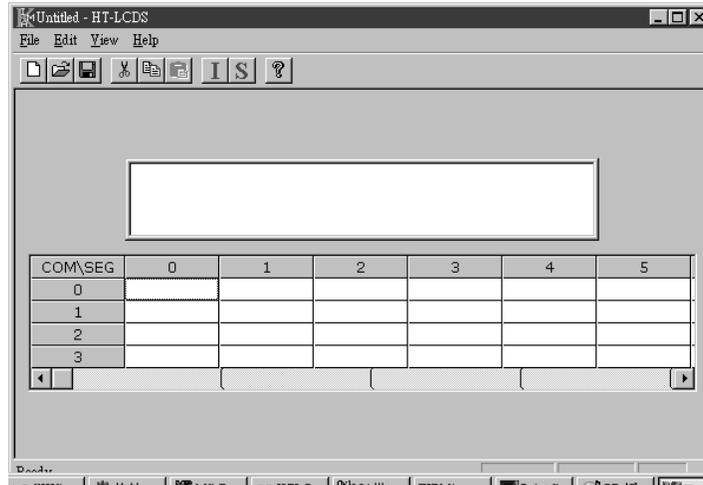
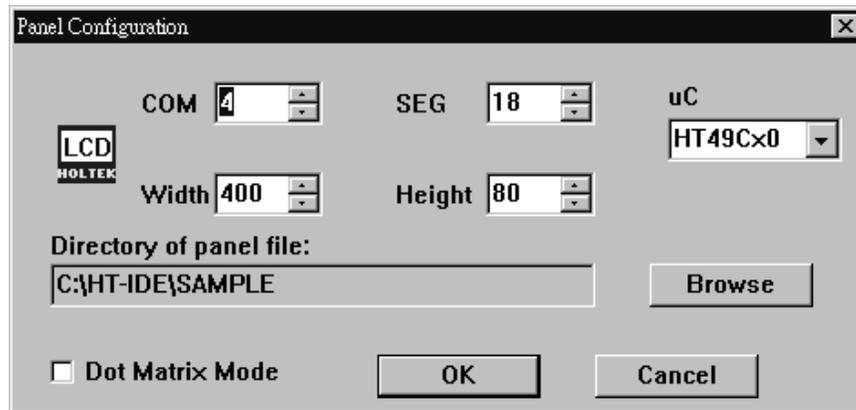
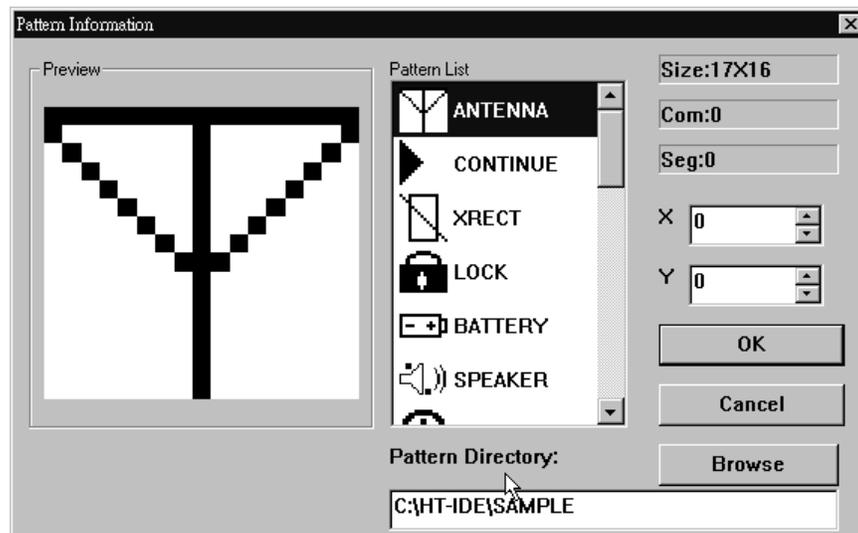

Fig 14-2
Fig 14-4
Fig 14-6
When selected from within the Tools menu, the LCD Simulator, Fig 14-2 is displayed if the corresponding panel file of the current project exists. The file name of each bitmap pattern is shown at the specified COM/SEG position of the table. At the same time, these patterns are shown on the above panel screen. If the corresponding panel file does not exist in the project directory, both the panel screen and the COM/SEG table are not displayed.
The only way to set the panel configuration is to create a new panel file by selecting the File menu, New command. The Panel Configuration dialog box, in Fig 14-4, will be displayed along with the corresponding panel file name. Set the correct data for each item in the box and press the [OK] button. The screen returns to Fig 14-2 for pattern selection.
- When Fig 14-2 appears during the panel file creation procedure, i.e. after completing the panel configuration, patterns must be selected by using the Pattern Information dialog box and selecting the COM/SEG positions for these patterns.
- If Fig 14-2 has appeared from the Open command of the File menu, then new patterns may be added, original patterns changed to new patterns or patterns deleted from the COM/SEG table. In addition, the COM/SEG positions of the patterns can be changed.
- Select the COM/SEG position on the grid as in Fig 14-2 and double click the mouse. The Pattern Information dialog box, in Fig 14-6, is displayed. All the bitmap files in the project s directory are listed in the Pattern List box. The Size field is the bitmap size of selected pattern, Com and Seg fields are the numbers of the selected COM/SEG position of this pattern. None of these three fields can be modified.
- Press the [OK] button which returns the screen to Fig 14-2, then click the Save command of the File menu or click the Save button on the toolbar. The panel file has now been created or modified.
- In Fig 14-2, Select the COM/SEG position of the pattern to be deleted and press the the [Delete] key or click the Cut button on the toolbar.
- In Fig 14-2, select the COM/SEG position of the selected pattern and double click the mouse. The Pattern Information dialog box, in Fig 14-6, is then displayed. Select a pattern from the Pattern List box and press the [OK] button.
- In Fig 14-2, use the Select-Drag-Drop method to move the pattern directly onto the panel screen. Or ...
- In Fig 14-2, double click the COM/SEG position of the selected pattern. The Pattern Information dialog box, in Fig 14-6, is displayed. Set the X, Y value of the new position and press the [OK] button.
When above operations have been completed and the screen returns to Fig 14-2, click the Save command of the File menu or click the Save button on the toolbar. The panel file has now been created or modified.
Click the LCD Simulator command of the Tools menu, in Fig 14-1, to enter the HT-LCDS environment. Fig 14-2 is displayed.